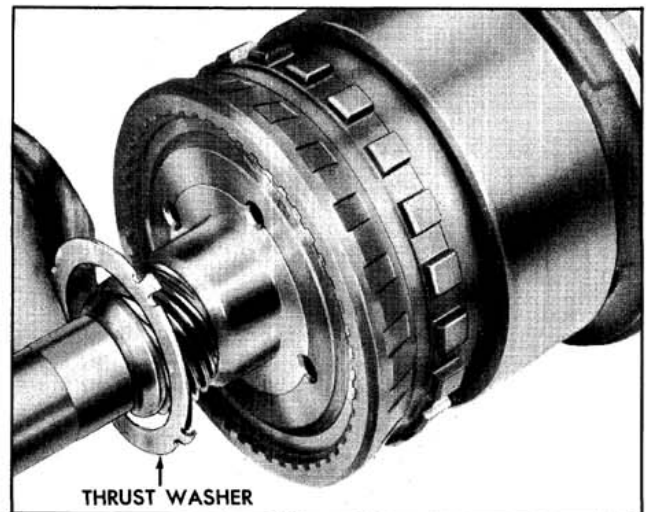

Fig. 6-75 Removing Thrust Washer
16. Remove the output shaft to case thrust washer from the rear of the output shaft or inside the case. (Fig. 6-75)